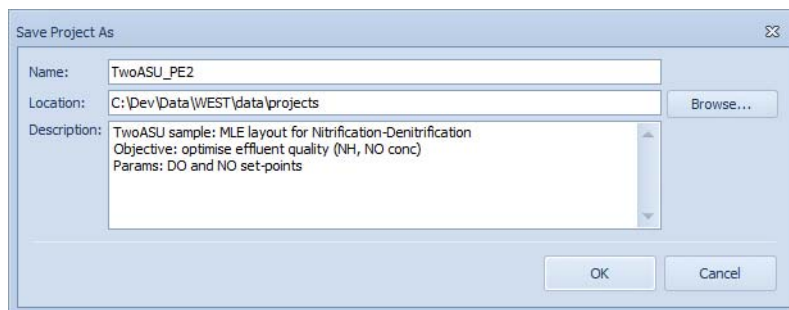

Figure 10.5 Save As dialogue, to use the TwoASU sample as the starting point for the Parameter Estimation example
- Provide a name and a description for the new Project (Figure 10.5).